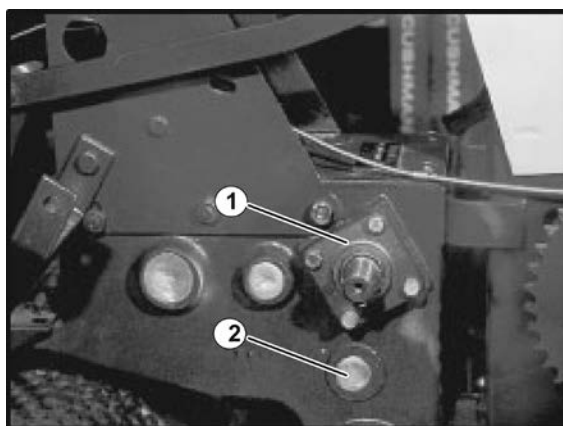

FIGURE 4
5. Remove the four screws securing the bearing cage. Remove bearing cage and pulley shaft out of gear case (removing the blade drive gears as shaft is pulled out). (Figure 4)